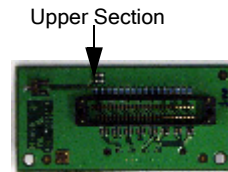

Figure 17 Upper section of Side B
- b Plug the midbus probe *tip* in the *Side B* of the loopback connector. While doing this, ensure that the while bullet on the midbus probe *tip* is facing the *upper section* of the Side B (Figure 17).